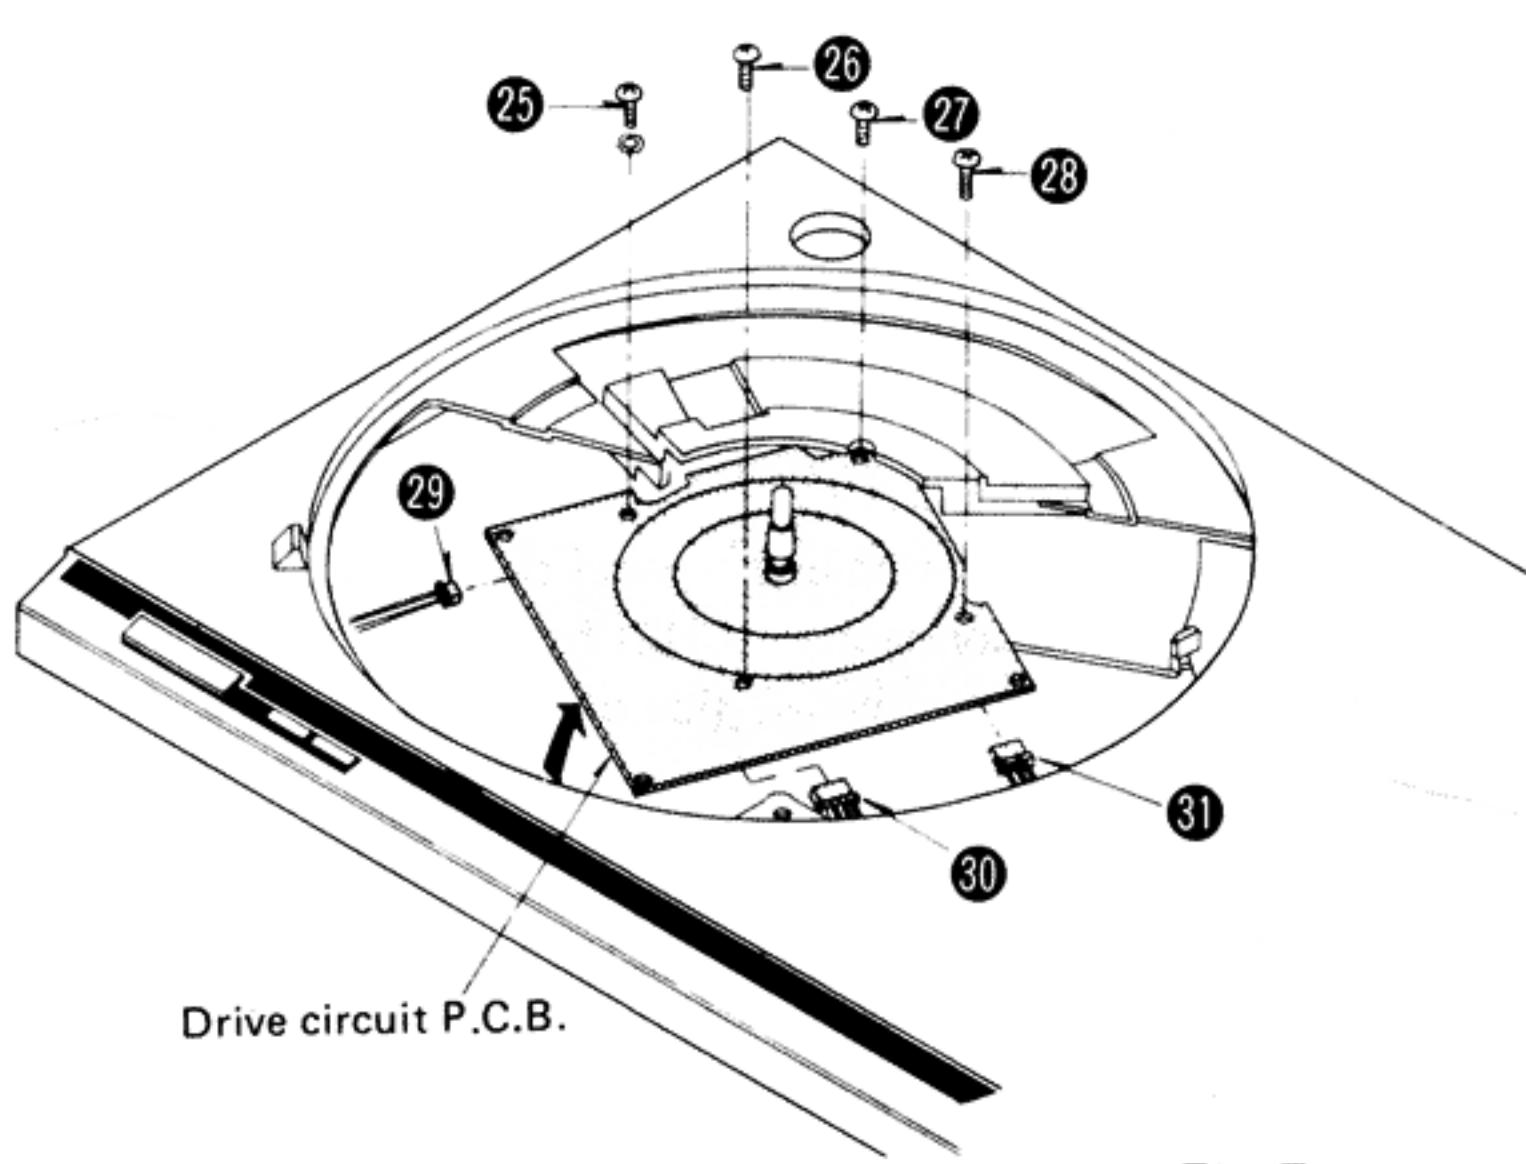

Fig. 7
2. Remove the drive circuit P.C.B. setscrews ㉕ ~ ㉘ and connectors ㉙ ~ ㉛. Remove the drive circuit P.C.B. by lifting it as shown by the arrow. Then, the electric parts can be replaced. (See Fig. 7)